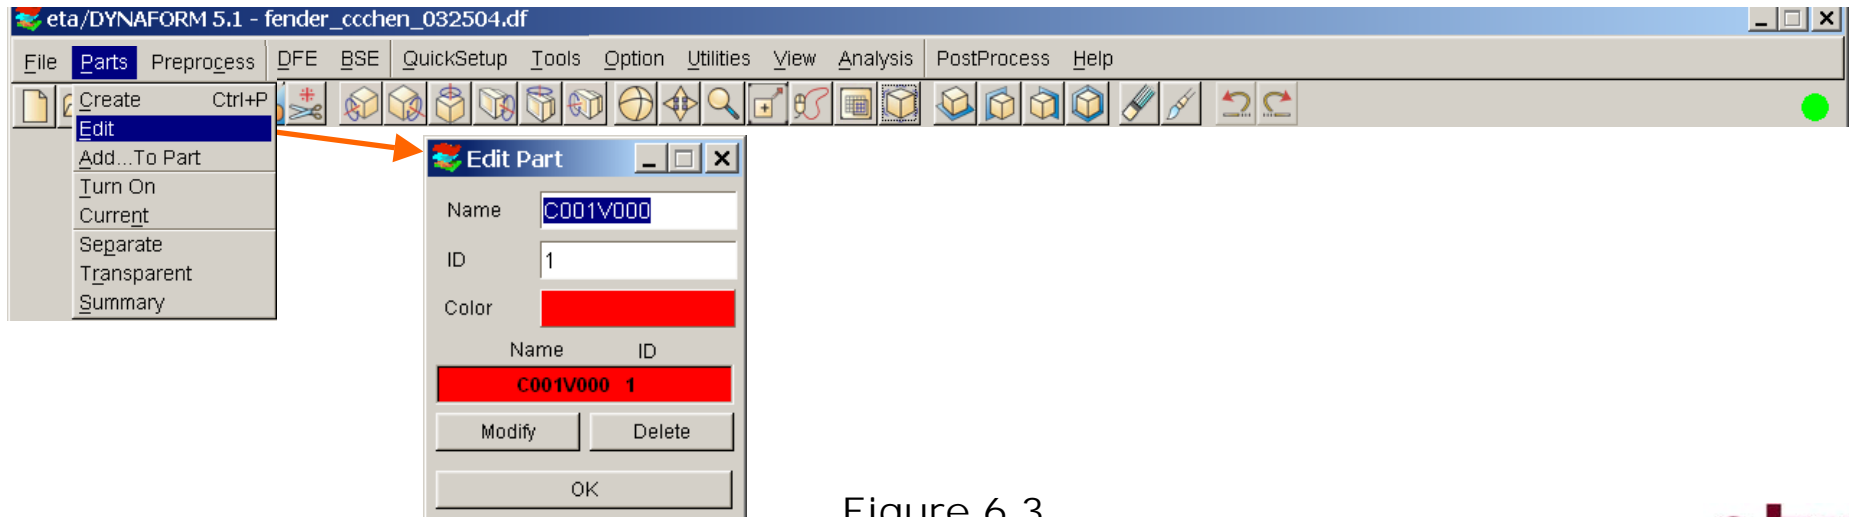

Figure 6.3
- Click on **Parts** (See Figure 6.3)
- Double click on the input box for Name to highlight Part C001V000 (as shown in Figure 6.3)